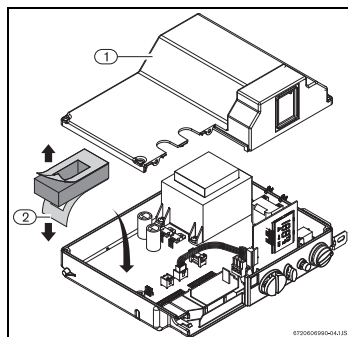
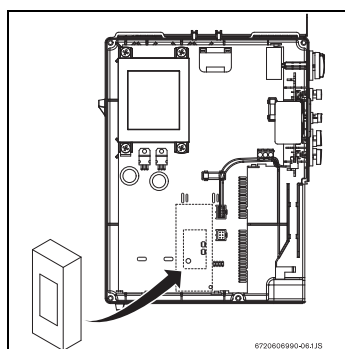

Fig. 3
Fig. 4 Support correct position
- Open control unit top cover (Fig. 3, pos. 1).
- Remove the protective paper (Fig. 3, pos. 2) from one face of the support and attach it to the main PCB as shown in Fig. 4.
- ▶ Replace the control unit cover with the 4 Philips head screws (Fig. 3, pos. 1).